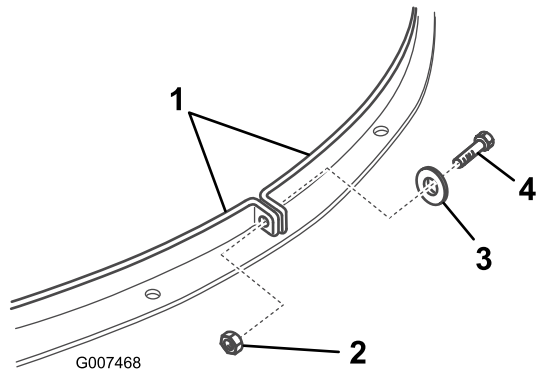

Figure 19
- Remove the bolt, washer, and nut that secure the 2 strap ends together (Figure 19).
- Join the 2 strap ends around the Recycler cover as shown (Figure 19).
15. Join the 2 strap ends around the discharge chute as shown in Figure 19.
16. Align the holes in the strap ends and fasten them together snugly with the bolt, washer, and nut you previously removed (Figure 19).